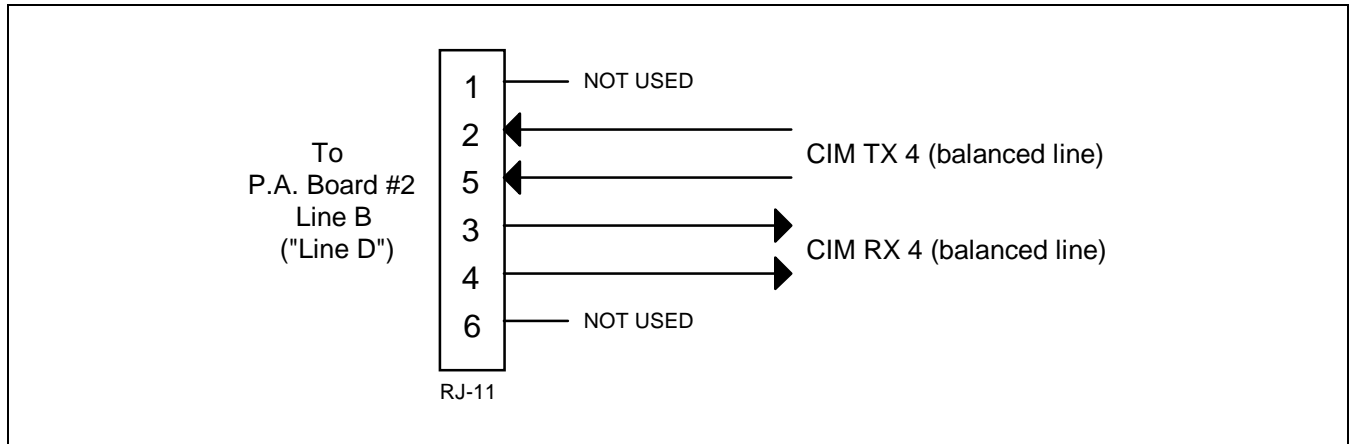

Figure 15 – Audio PA Board #2-To-CIM RJ-11 Wiring
Install two (2) pairs of audio cables between the CEC/IMC CIM Audio Board and Audio PA Board #2 in the Audio Tower. Terminate the Audio PA Board's connection with an RJ-11 connector. The RJ-11 pin-outs are shown in Figure 15. Due to the distances involved, shielded cable is recommended for these interconnections between the Audio Tower and the CEC/IMC.